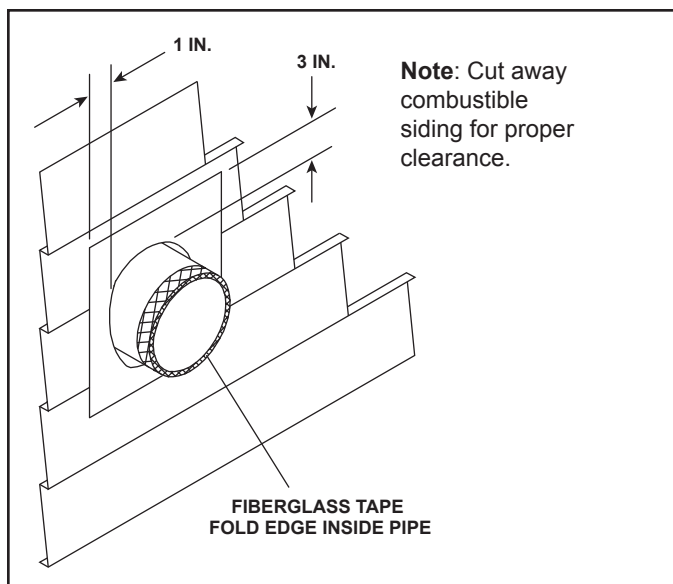
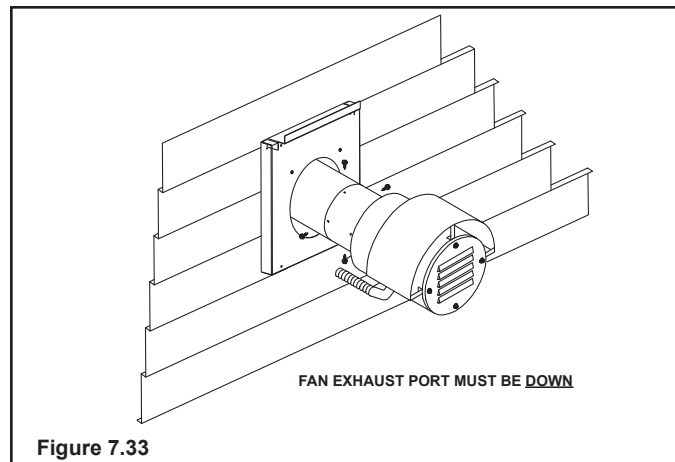

Figure 7.32
Figure 7.33
3. After determining the location of the vent system termination point (see Step 1) cut a 10 in. X 12 in. rectangular hole through the wall or roof. Apply the adhesive back fiberglass tape to the last vent system component 1 1/4" from the edge. Firmly press the tape on to the venting and fold the extra tape inside the venting. See Figure 7.32. Mount and attach the power vent to the last vent system component. The exhaust port of the PVK-80 cap **MUST** be pointed down. Fasten the last horizontal vent section to the exterior firestop with a sheet metal screw through the flange and into the vent pipe. See Figure 7.33.